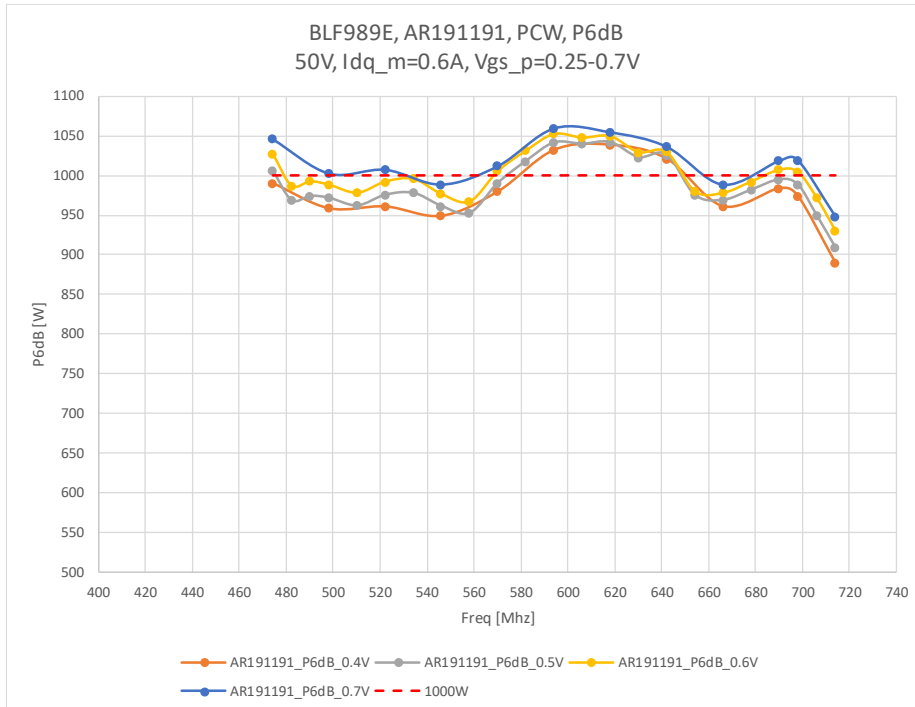

Figure 7 Pulsed CW, P6dB [W] Vgs_p = 0.4 ÷ 0.7V
- Figure 7 Pulsed CW, P6dB [W]Vgs_p = 0.4 ÷ 0.7V 9